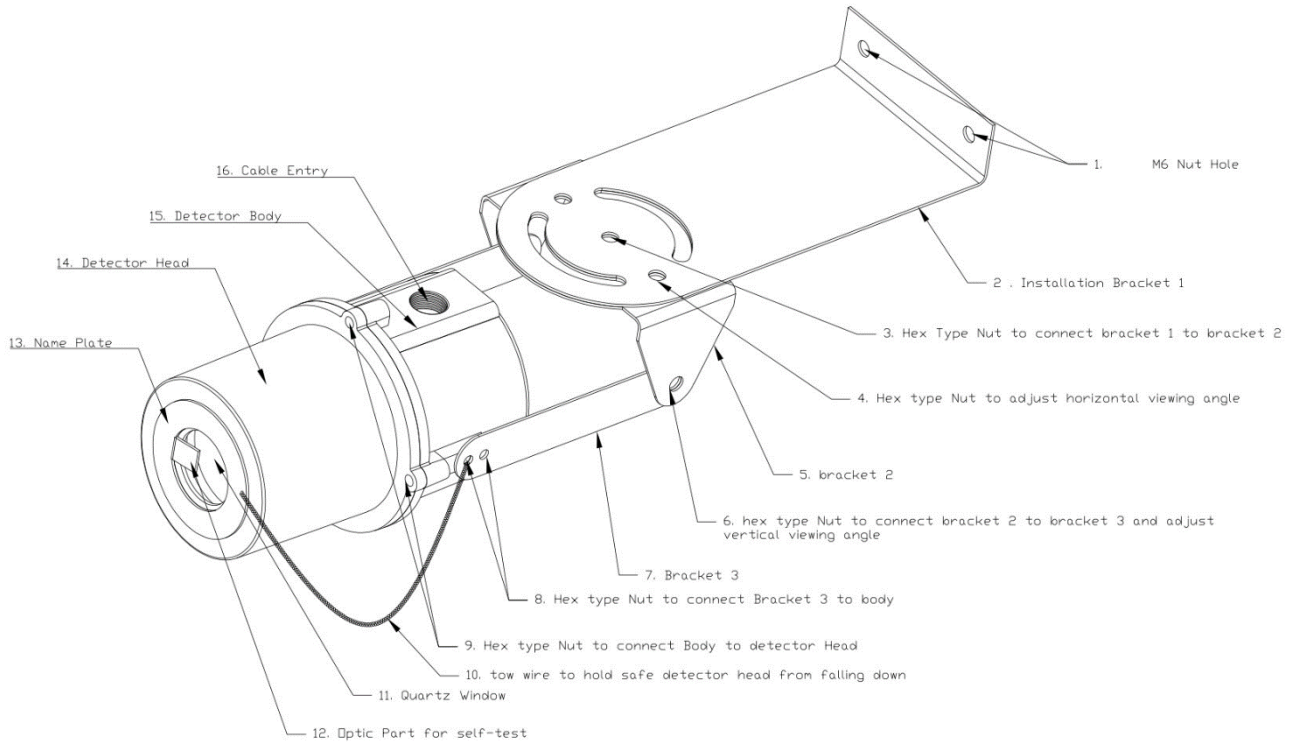

Figure 2: Outline drawing and detector parts
In case of installation on the wall or 2-inch pipe, use M6 U-Bolt (Item 1-Figure 2)
According to Figure 2, the detector body is connected to the adjustable base by bracket 3 (Item 7) and to the detector body by two M5 screws (Item 8).
After installing the gland and placing the cable from Item 16 in figure 2 (it is possible to install the gland in two directions up and down), in order to wire the detector, according to figure 2, open four M6 screws (item 9) with an Allen key and the Detector Head section (Item 14) is separated from the body. It is necessary to explain that in order to prevent damage or falling from a height, Detector Head is connected to Detector Body (Item 15) by a towing wire (Item 10). (Before opening the Detector Head, make sure there is a towing wire.)
If you need to adjust the tilt in the horizontal axis, use screws No. 3 and 4 according to Figure 2.
If you need to adjust the tilt in the vertical axis, according to Figure 2, use screws No. 6 on both sides of the detector.